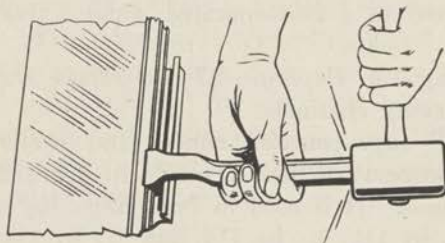

FIGURE 138.—Channel driver.
(2) Sponge rubber or cork tape does not swell after installation, and therefore must be applied more carefully to insure the proper tightness. It is ordinarily available only in $\frac{1}{32}$ - and $\frac{1}{16}$ -inch thicknesses. (The tape sizes just listed are the most economical to use, but other sizes are available.)
(3) When installing the first channel, clamp the new light in the vise. Lay the tape along the edge of the glass for the length of the channel. The tape must be thick enough to make a tight fit and wide enough to project above the channel when the glass is seated in the channel. To lay the tape around a corner, pinch the excess together in pleats with the pliers and cut it off smooth. Never leave a double thickness.
b. Seating glass in channel.—(1) Put the glass in the channel so that the trade-mark surface, indicating the heavier sheet, will be out. Seat it in the channel by striking moderate blows of a rubber hammer or by tapping against the channel driver (fig. 138). The channel driver distributes the force of the blow over a comparatively large area of the channel, and avoids bending or distorting it. It is offset so that it can be used under the regulator channel as shown in the figure.
(2) Drive the channel straight down from the center rather than starting at a corner, so that it will be centered. Always force the channel onto the glass rather than the glass into the channel. These precautions will help to avoid wrinkling the tape or breaking the